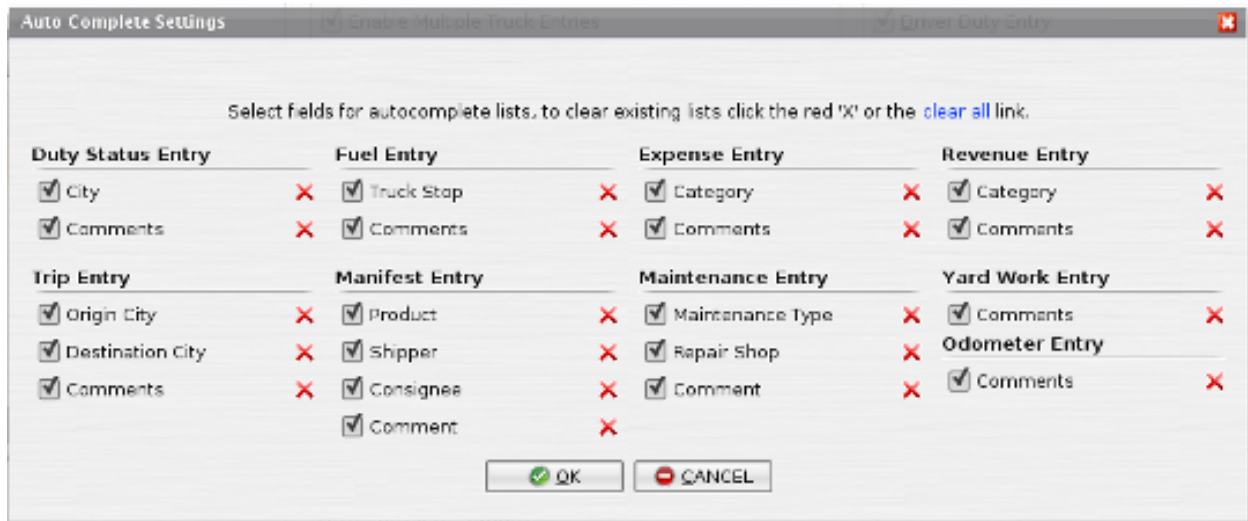

Figure 5.47. Auto-Complete Dialog
2. Under the "Auto Complete Settings" make sure the "Enable Auto-Complete" checkbox is checked, then click the Configure button beside the checkbox label and wait for the "Auto Complete Dialog" to appear see Figure 5.47, "Auto-Complete Dialog".